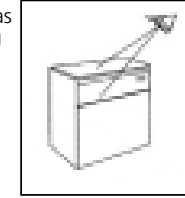

Fig 1.
- 1) Check that ice cuber has not been damaged during transportation (Fig.1)